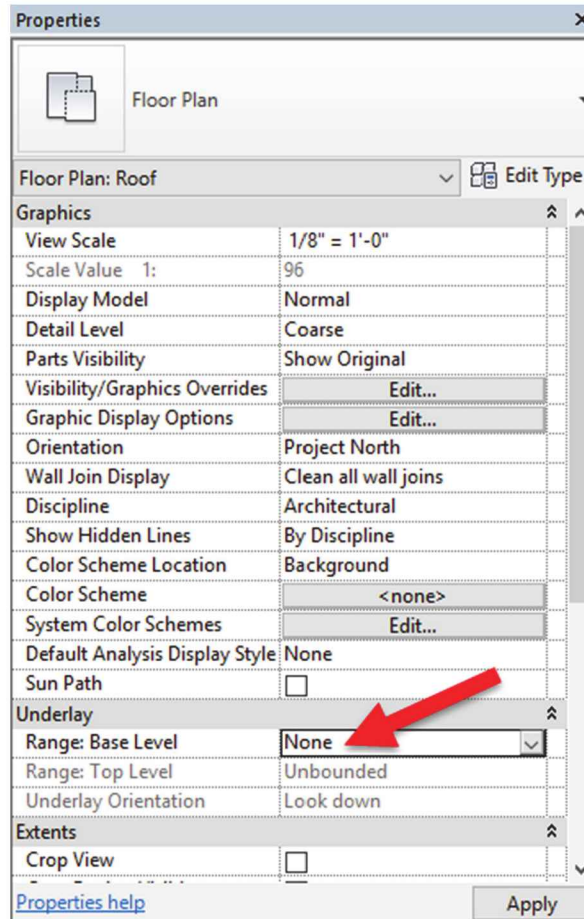

FIGURE 6-2.9 Roof plan view; view property
20. Set the Underlay Parameter **Base Level** to **None** (Figure 6-2.9).
For an overview of the **Show Hidden Lines** setting (See Figure 6-2.9), see the author's article on the electronic magazine website AECbytes: